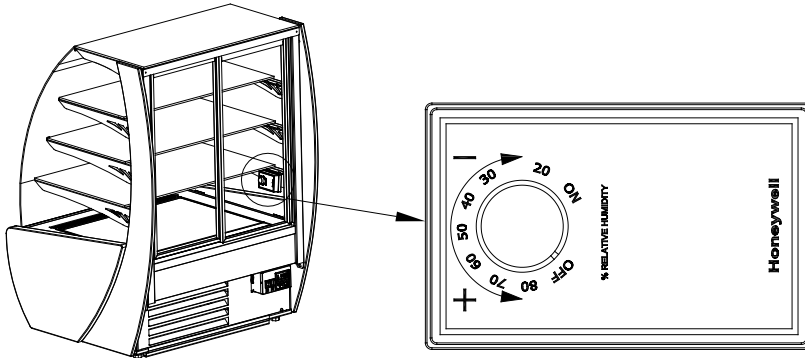

Fig.10 Humidistat
- For units equipped with a humidistat (not applicable to Carel units), you can set the desired humidity inside the unit using the wheel Fig.10 (p.23) Within a temperature range from 10 °C to 15 °C, it is possible to control the humidity in the range of 30 to 80%.
The humidistat controls the humidity, when the temperature inside the display case is in the range of 10 °C to 15 °C. Using the wheel on the humidistat set the desired humidity in the display case ranging from 30 to 80% by turning it Fig. 10 (page 9) and setting it in the correct position. Rotating the wheel clockwise lowers the set humidity, and in the opposite direction increases it. Turning the wheel to the left, to the end position turns off the humidistat, despite the power being on.